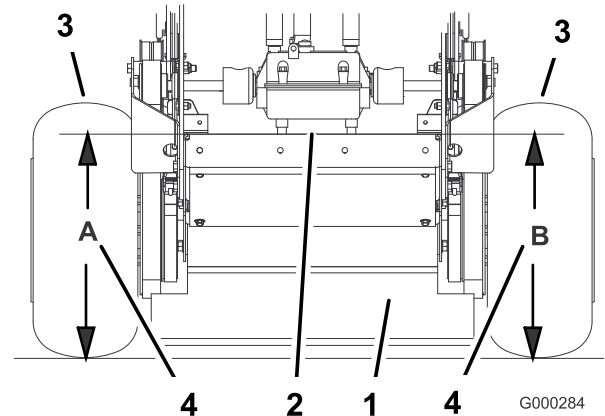

Figure 62
4. Measure engine deck height at location **A** (Figure 62).
5. Measure engine deck height at location **B** (Figure 62).